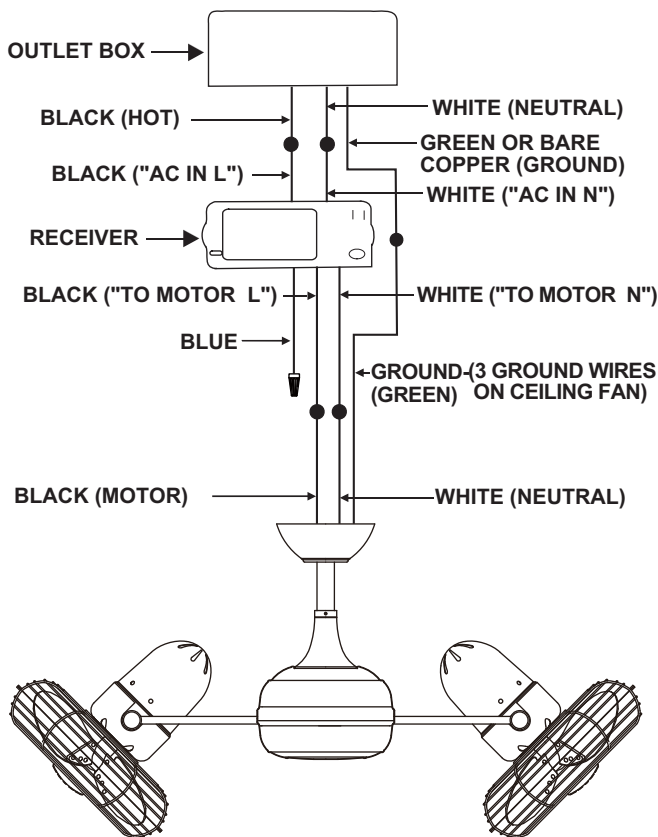

Figure 11
2. Motor to Receiver Electrical Connections: Connect the WHITE wire from the fan to the WHITE wire marked "TO MOTOR N" from the Receiver. Connect the BLACK wire from the fan to the BLACK wire marked "TO MOTOR L" from the Receiver. Proceed to secure all wire connections with the plastic wire nuts provided. no light, so the blue receiver "light" wire must be capped off to avoid electrical shock. (Fig. 11)
3. Receiver to House Supply Wires Electrical Connections: Connect the WHITE wire (Neutral) from the outlet box to the WHITE wire marked "AC in N" from the receiver. Connect the BLACK wire (Hot) from the outlet box to the BLACK wire marked "AC in L" from the receiver. Secure all wire connections with the plastic wire nuts provided. (Fig. 11)
4. If your outlet box has a GROUND wire (Green or Bare Copper) connect this wire to the Hanger Ball and Hanger Bracket Ground wires. If your outlet box does not have a Ground Wire, then connect the Hanger Ball and Hanger Bracket Ground Wires together. Secure wire connection with the plastic wire nut provided. (Fig. 11)